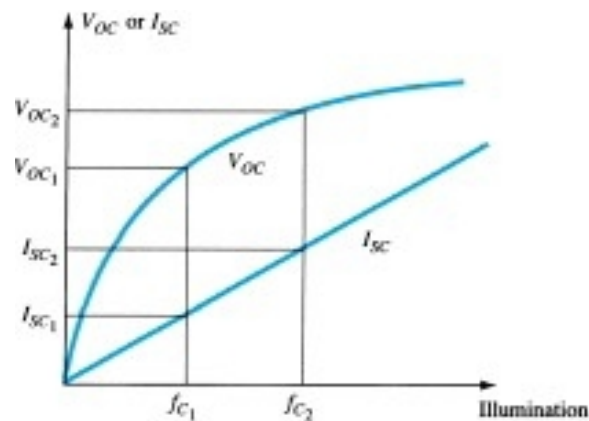

Figure-27  $V_{OC}$  and  $I_{SC}$  versus illumination for a solar cell
- This is a logarithmic function of the illumination, as shown in Figure-27.  $V_{OC}$  is the terminal voltage of a battery under no-load (open-circuit) conditions.
- Note, however, in the same figure that the short-circuit current is a linear function of the illumination. That is, it will double for the same increase in illumination ( $fC1$  and  $2fC1$  in Figure-27) while the change in  $V_{OC}$  is less for this region.